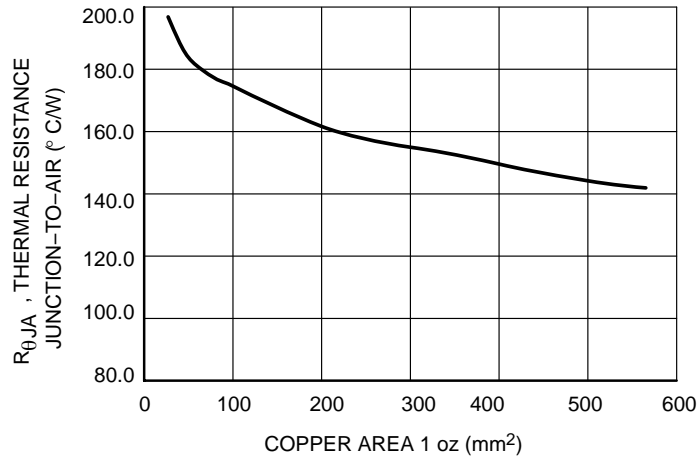

Figure 4. SOP-8 Thermal Resistance versus P.C.B. Copper Area
1. Refer to Figure 4 for more information.